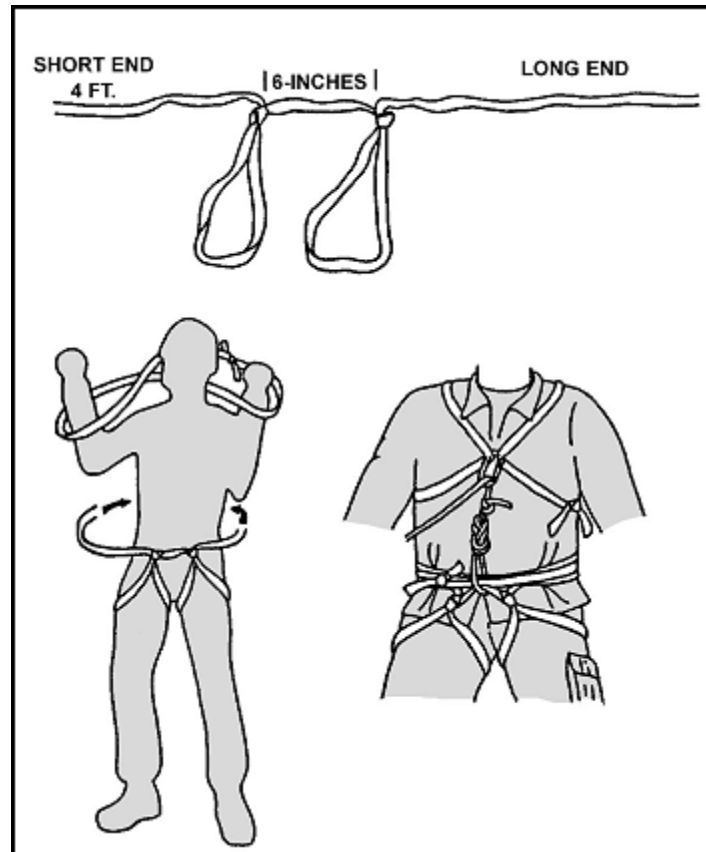

Figure 6-20. Improved seat and chest harness.
(2) The bowline-on-a-coil is a safe and effective method for attaching to the rope when the terrain is low-angled, **WITHOUT THE POSSIBILITY OF A SEVERE FALL**. When the terrain becomes steeper, a fall will generate more force on the climber and this will be felt through the coils of this type of attachment. A hard fall will cause the coils to ride up against the ribs. In a severe fall, any tie-in around the waist only could place a "shock load" on the climber's lower back. Even in a relatively short fall, if the climber ends up suspended in mid-air and unable to regain footing on the rock, the rope around the waist can easily cut off circulation and breathing in a relatively short time.
(3) The climbing harness distributes the force of a fall over the entire pelvic region, like a parachute harness. Every climber should know how to tie some sort of improvised climbing harness from sling material. A safe, and comfortable, seat/chest combination harness can be tied from one-inch tubular nylon.
c. Improvised Seat Harness. A seat harness can be tied from a length of webbing approximately 25 feet long (Figure 6-20).
(1) Locate the center of the rope. Off to one side, tie two fixed loops approximately 6 inches apart (overhand loops). Adjust the size of the loops so they fit snugly around the thigh. The loops are tied into the sling "off center" so the remaining ends are different lengths. The short end should be approximately 4 feet long (4 to 5 feet for larger individuals).
(2) Slip the leg loops over the feet and up to the crotch, with the knots to the front. Make one complete wrap around the waist with the short end, wrapping to the outside, and hold it in place on the hip. Keep the webbing flat and free of twists when wrapping.
(3) Make two to three wraps around the waist with the long end in the opposite direction (wrapping to the outside), binding down on the short end to hold it in place. Grasping both ends, adjust the waist wraps to a snug fit. Connect the ends with the appropriate knot between the front and one side so you will be able to see what you are doing.